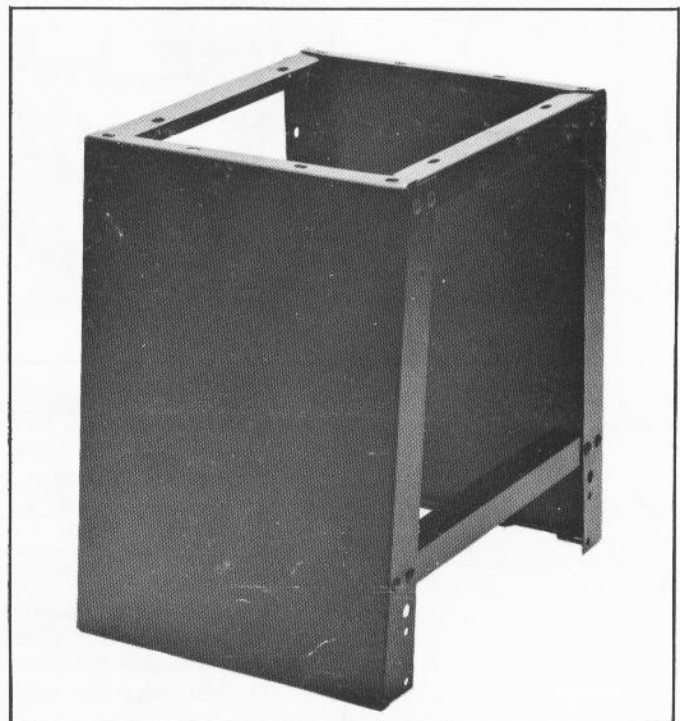

Fig. 5
2. Fig. 5, illustrates the stand assembled.